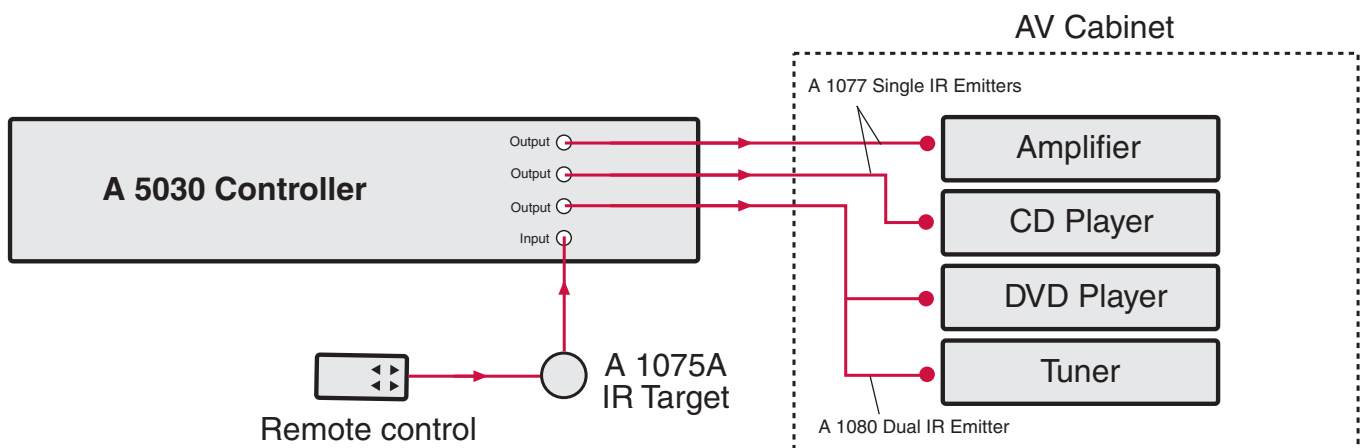

Figure 4: A typical infra red emitter installation showing signal flow from IR target to AV equipment.
- b) Dual emitters (such as A 1053 and A 1080).All IR emitters are available separately. Figure 4 shows a typical IR emitter setup.